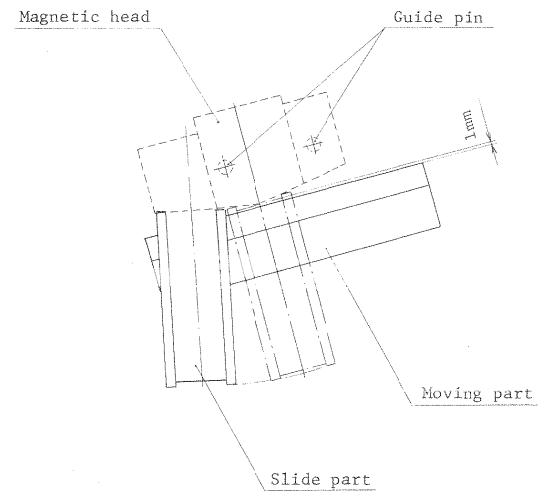

Fig. 1 Magnetic head and auto cleaner
1. The auto cleaner can be positioned with the guide pins on the magnetic head. (See Fig. 1.)